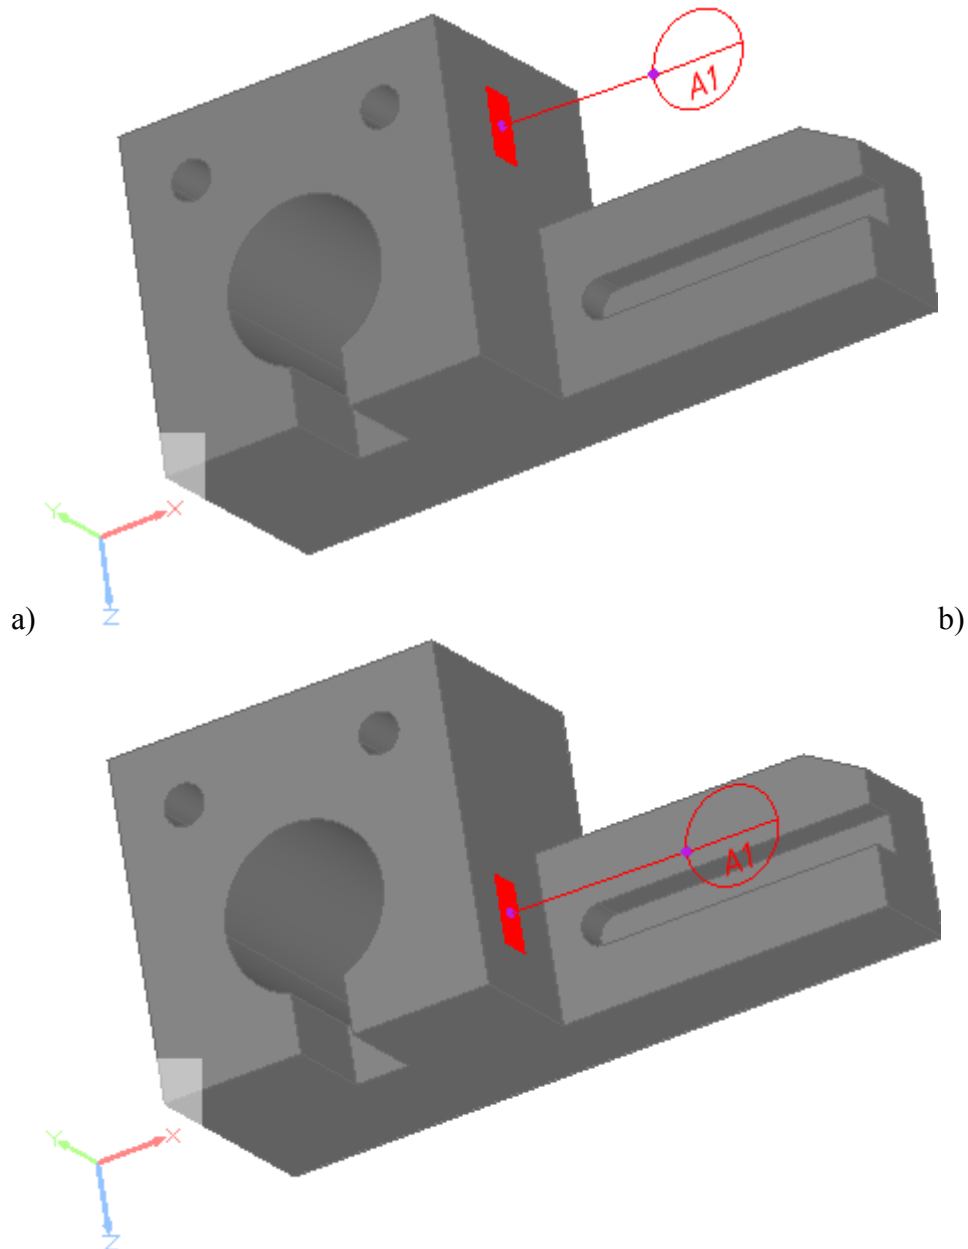

Figure 6. a) Selected datum target leader line and symbol with highlighted dragging points, b) changed location of datum target (rectangle)
- Click with a mouse on the datum target symbol of an applicable datum target. Two points on the leader lines are highlighted (see Figure 6).
- Drag with a mouse to the desired direction to change a location of the selected datum target. Release the mouse button to set the location (see Figure 6 b - the location of the datum target (rectangle) is changed).